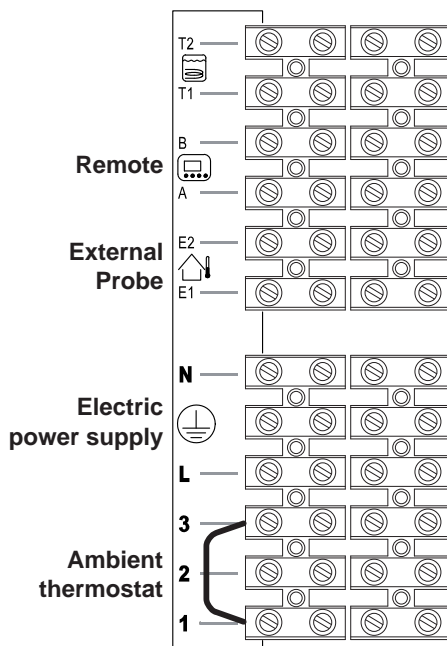
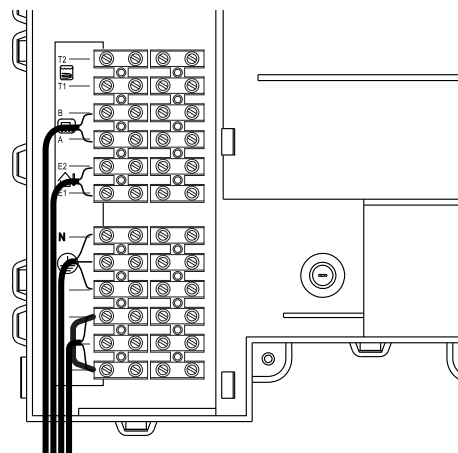
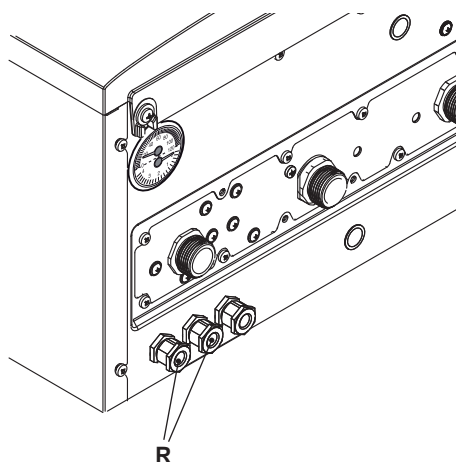

Fig. 6.16
Fig. 6.17
Fig. 6.18
- Connect the electric power supply cable coming from the fused spur isolation switch to the power supply terminal block of the boiler Fig. 6.16 keeping the same connections for the live (brown wire) and the neutral (blue wire). External 3A fuse or fused plug with same current rating is recommended.
The route of the boiler and ambient thermostat's electric power supply cable or wires must follow the route indicated in Fig. 6.17.
Allow the cables to exit the boiler by using the relevant cable clamps R (Fig. 6.18).
Use the clamps indicated in Fig. 6.16 to connect the ambient thermostat.
Use the ambient thermostat's clamps indicated in Fig. 6.16 and Fig. 6.17. to connect the zone valve. Insert the electric cables of the zone valve's micro switch contacts in clamps "1 and 3" of the ambient thermostat's terminal block as in Fig. 6.17.
The route of the boiler and ambient thermostat's electric power supply cable or wires must follow the route indicated in Fig. 6.17. Allow the cables to exit the boiler by using the relevant cable clamps R (Fig. 6.18).
The route of the external probe's connection wires must follow the route indicated in Fig. 6.17.
The route of the remote control cable must follow the route indicated in Fig. 6.17. Allow the cables to exit the boiler by using the relevant cable clamps R (Fig. 6.18).